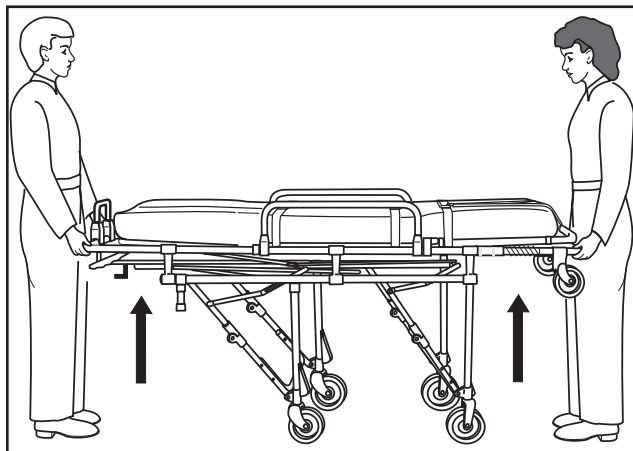

Figure 11 - Raising the Cot
2. **Both Operators:** Grasp the cot main frame with an underhand grip. In a coordinated move, both operators lift the cot (Figure 11) until the legs unfold and lock into the raised position.